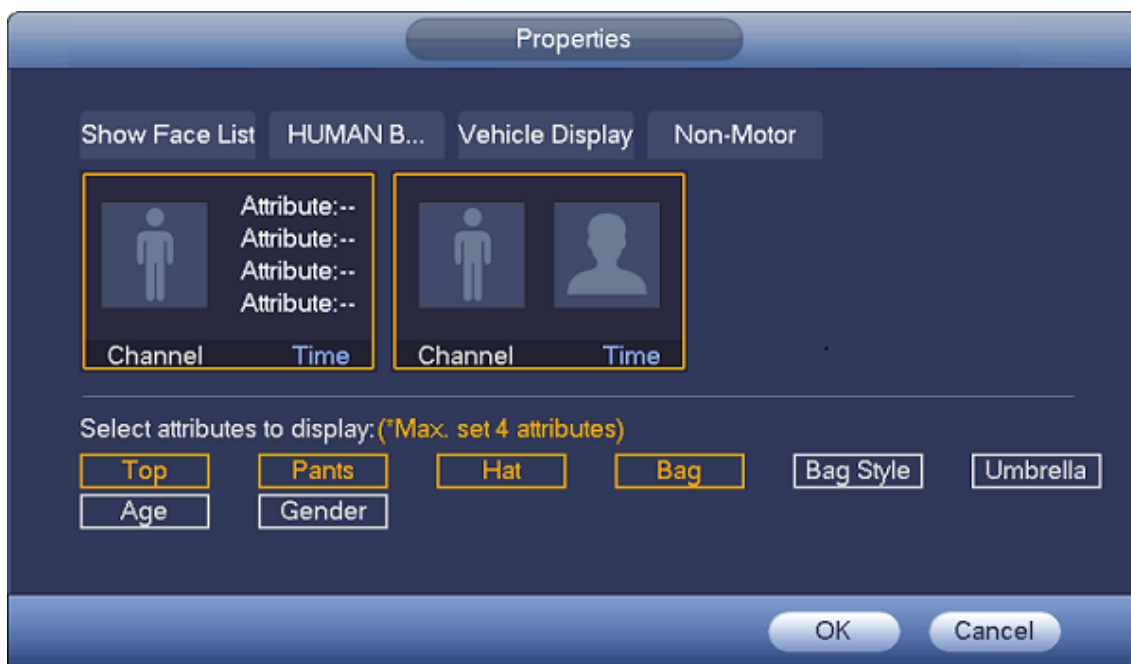

Figure 4-59
- Drag the mouse to select a zone, you can view an interface show as Figure 4-59.